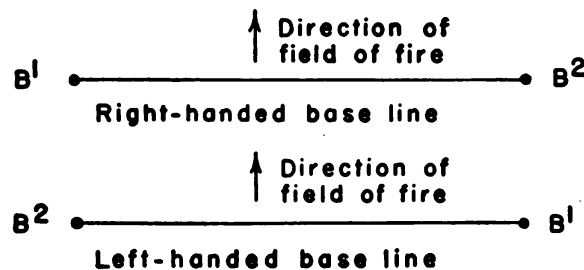

FIGURE 43.—Differentiation between right-handed and left-handed base lines.
*Q.* What is meant by a right-handed base line? A left-handed base line? *A.* See figure 43.